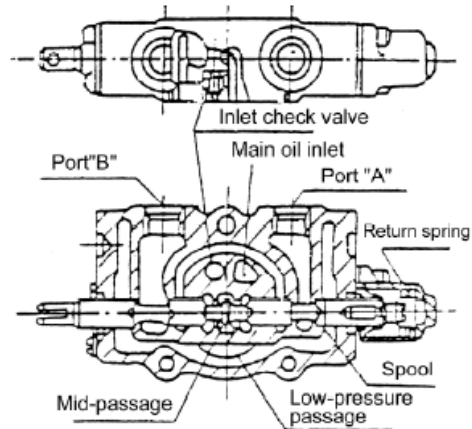

Fig. 5-4 Neutral position
(1) Spool operation (take the tilt spool valve for example)
a) Neutral position (See Fig. 5-4)